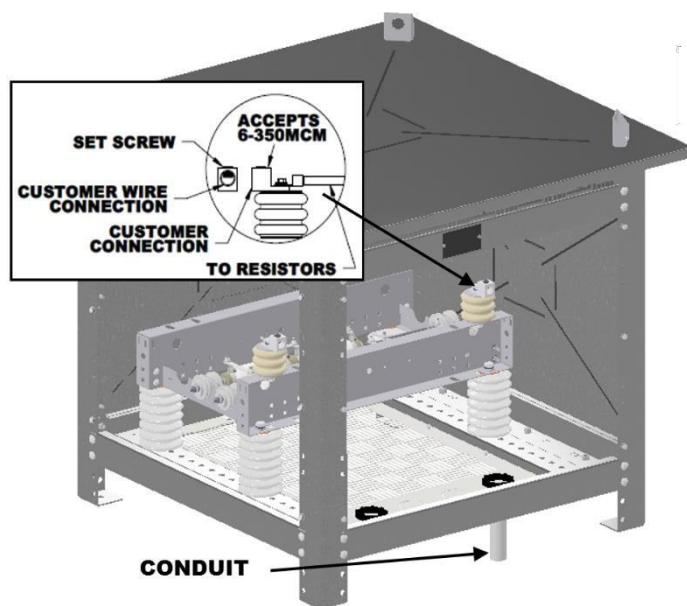

Figure 3: Wirewound or edgewound resistors
- For wirewound or edgewound type (and some grid type) resistors, the connection is made to a terminal point separate from the resistor. This configuration prevents undue stress on the actual elements. The neutral terminal is tagged for easy identification. Location of the conduit is the customer's responsibility. (See Figure 3.)
2. With the cables entering via rigid conduit from the bottom of the enclosure, the phase connections are made directly on the X1, X2, and X3 terminals of the grounding transformer. A compression type lug or NEMA 2/4 hole pad is used for terminal connection. Alternately, the lug or terminal may be mounted on a stand-off insulator to simplify installation. Location of the conduit is the customer's responsibility. (See Figure 3)
For wirewound or edgewound type resistors, the connection is made to a terminal point separate from the resistor. This configuration prevents undue stress on the actual elements. The ground terminal is tagged for easy identification. Location of the conduit is the customer's responsibility. (See Figure 3.)